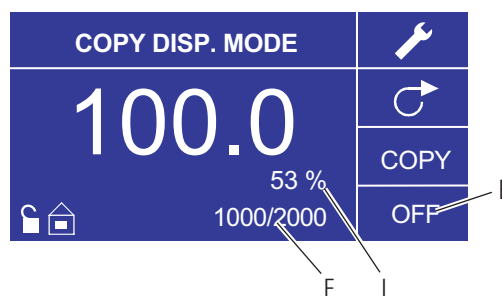

Figure 3-7. Copy Dispense Mode Operation
5. **Setting OFF Time:** To set the OFF Time, use the directional pad and ENTER key to select the OFF field (see position E, Figure 3-7). Doing so will highlight the timer in the center of the screen (see position I, Figure 3-7). Pressing ENTER again, allows the timer to be set using the UP/DOWN arrows. Switch between digits using the LEFT/RIGHT arrows. After selecting an optimal OFF Time, press ENTER again to validate. The drive will now rest for the time appearing in the center of the screen. **NOTE:** If the OFF Time is set to 00:00:00, the drive requires a START/STOP Input from the keypad or the remote IO Connector to start the next dispense.
6. **Setting Batch Size:** Use the directional pad and ENTER key to select the Batch Count icon from the operation screen (see position F, Figure 3-7). From Batch Count screen use the UP/DOWN arrows to select batch size. Press ENTER to validate batch size. When set to zero (0) the drive will run for an infinite number of cycles and the ∞ symbol is displayed. Select EXIT to return to the Copy Dispense Mode screen.
8. **Reset Batch Count:** To reset a BATCH COUNT to zero, use the directional pad and the ENTER key to select the BATCH COUNT icon (see position F, Figure 3-7). In the BATCH COUNT screen, select RESET and press the ENTER key to reset the batch count. Select EXIT to return to the Copy Mode Operation screen.